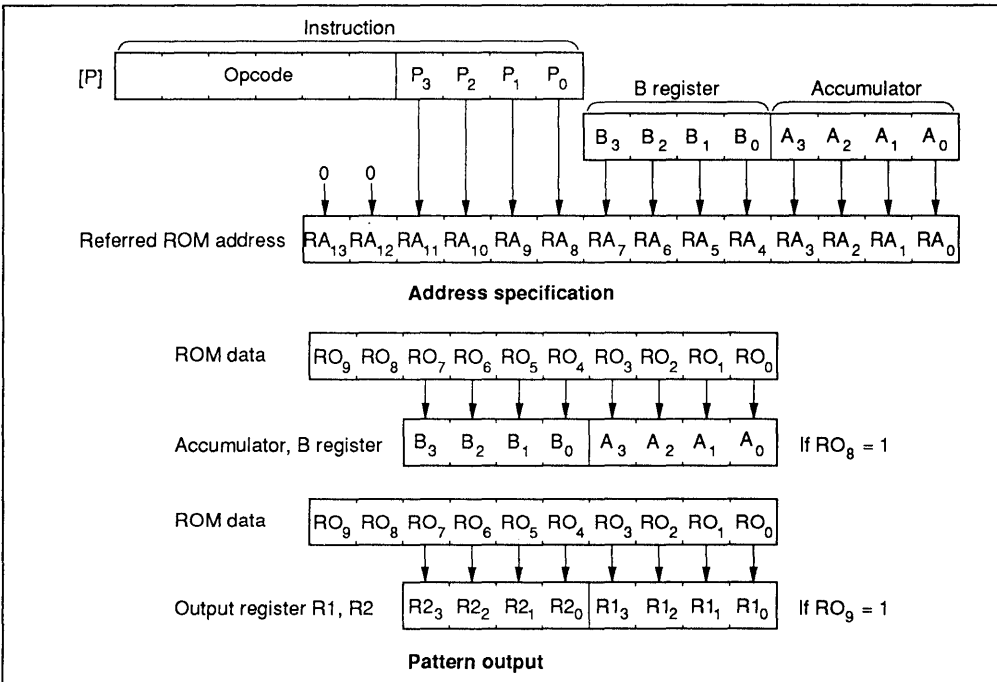

Figure 49 P Instruction
**P Instruction:** ROM data addressed in table data addressing mode can be referenced with the P instruction as shown in figure 49. If bit 8 of the ROM data is 1, eight bits of ROM data are written to the accumulator and the B register. If bit 9 is 1, eight bits of ROM data are written to the R1 and R2 port output register. If both bits 8 and 9 are 1, ROM data is written to the accumulator and the B register and also to the R1 and R2 port output register at the same time.